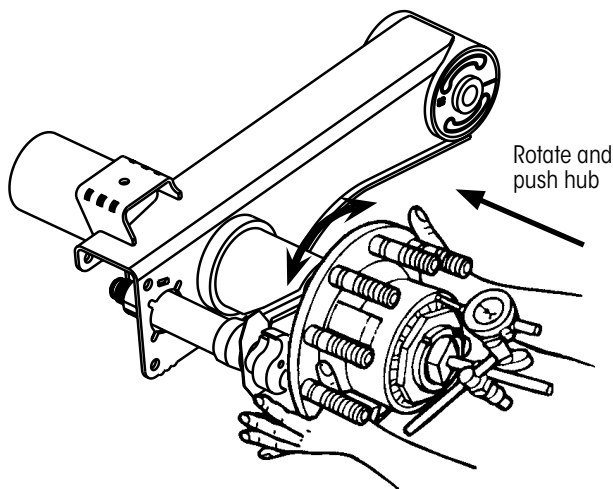

Figure 5: Checking inward end-play
NOTE: A reasonable assessment can be performed without removing tires and rims. However, this procedure is best performed with hub only as shown in Figure 5.
8. **Grasp hub flange** as shown in Figure 5, and **push** the hub inward **while rotating** the hub slightly in both directions (between two hub cap fastener holes) until the dial indicator reading remains constant. **Record reading.**